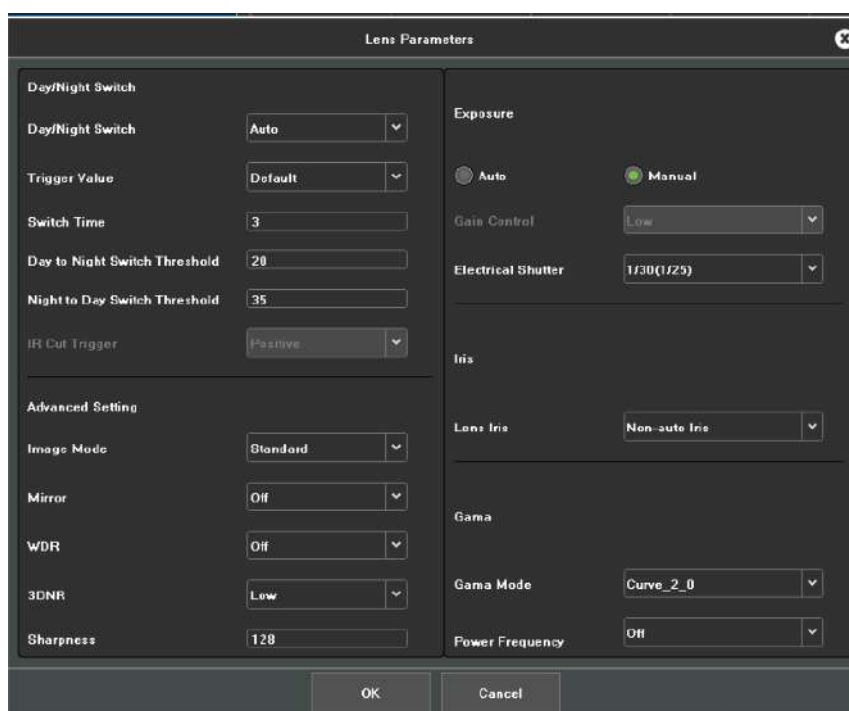

Figure 7.5 Camera Lens Parameters Setting Interface
- 1) **Camera Lens Parameters Setting:** Set the channel Camera Lens Parameters, as shown in Figure 7.5.